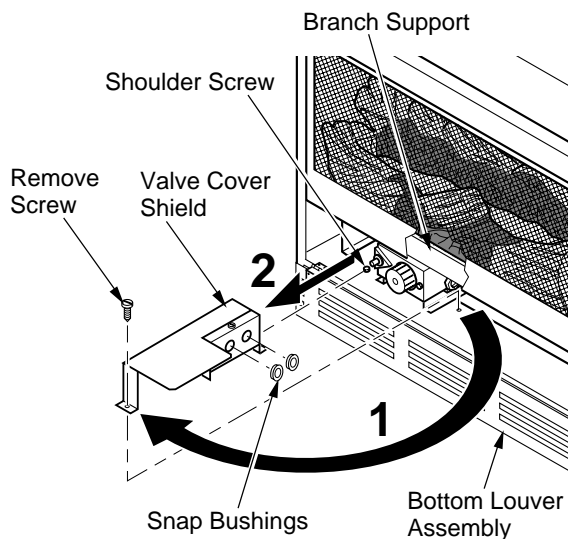

Figure 17 - Removing Valve Cover Shield
1. Open bottom louver assembly by swinging the assembly down (see Figure 17).
**IMPORTANT:** Do not remove shoulder screw on the left side of valve cover shield. Slide the valve cover shield off of the shoulder screw (see Figure 17).